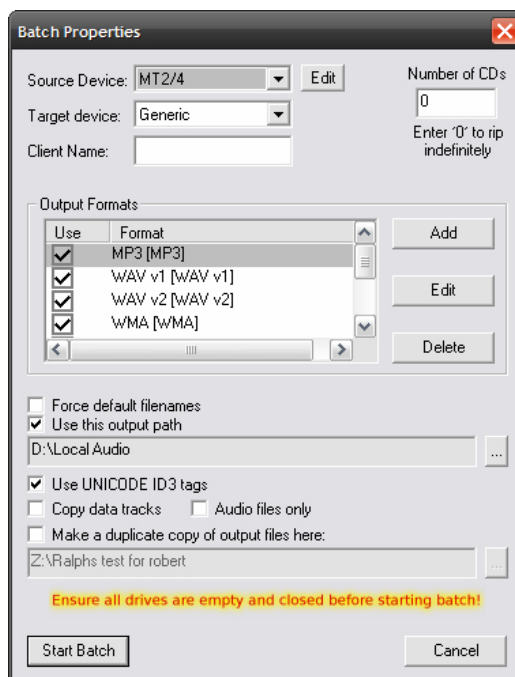

Figure 4.14– Batch Properties Dialog Box
In the main RipStation screen, click the 'New Batch' button and the Batch Properties dialog box shown in figure 4.14 appears.
- **Path** - This represents the path the codec's output will use as a root folder. This may be overridden however in the batch properties screen (figure 4.14) by checking the 'Use this output path' option.